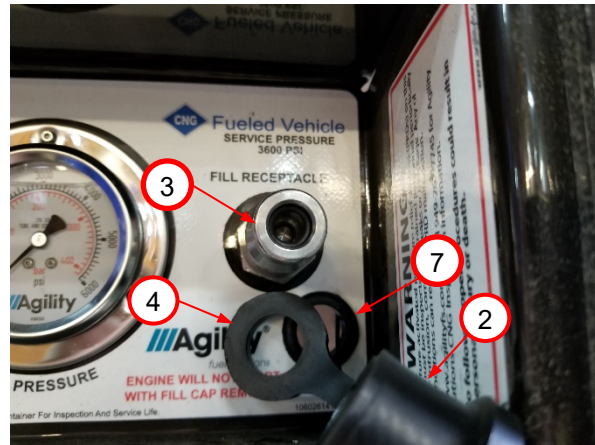

Figure 4.
2. Install dust cap retention loop (4) on fuel fill receptacle retaining slot (not visible). *Figure 4*
3. Install dust cap (2) on fuel fill receptacle (3). *Figure 4*